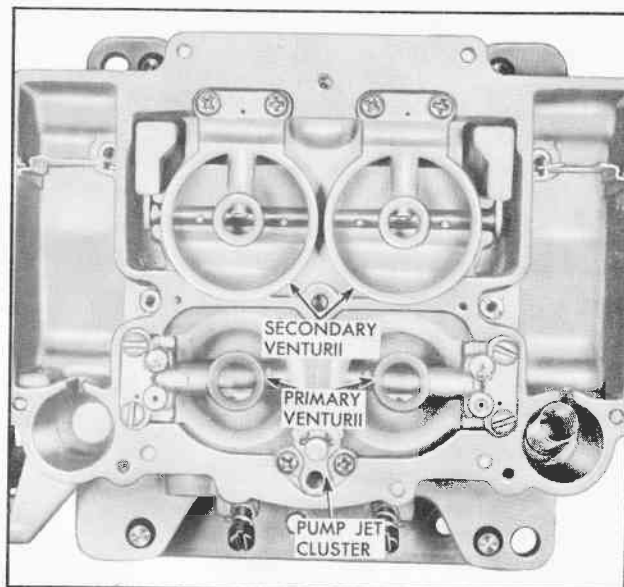

Fig. 12 Top View of Carburetor Body Assembly
6. Remove pump jet cluster and gasket (Fig. 12).
7. Remove two screws and primary venturi and gasket on pump side (Fig. 12).
9. Remove secondary venturii on pump and choke sides (Fig. 12).